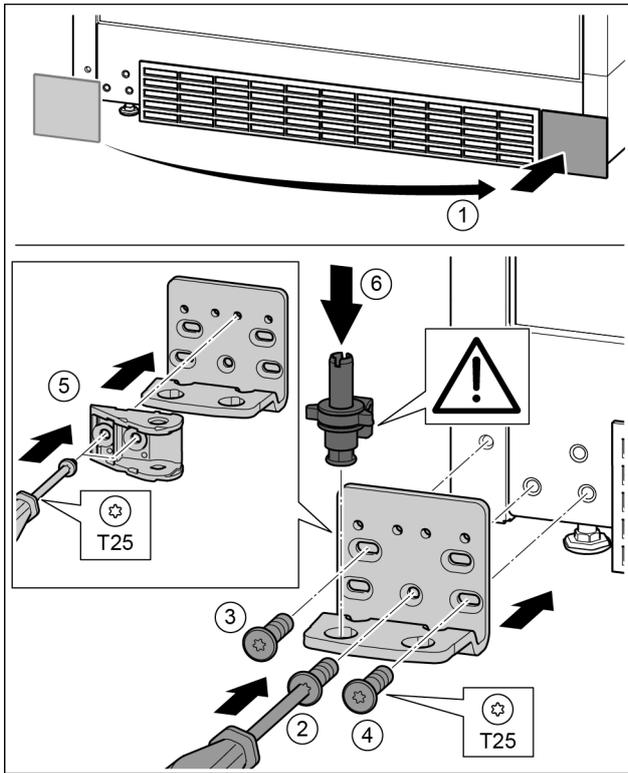

Fig. 32
- ▶ Remove the cover and fix it on the other side. Fig. 32 (1)
- ▶ Place the bearing bracket on the other side and screw in with the aid of a T25 screwdriver. Start with screw 2 at the bottom in the middle. Fig. 32 (2)
- ▶ Screw in screws 3 and 4. Fig. 32 (3, 4)
- ▶ Rotate the soft stop connection 180°. Screw in with a T25 screwdriver on the other side of the bearing bracket. Fig. 32 (5) \*
- ▶ Insert the bearing pin completely. Make sure that the catch mechanism is pointing to the rear. Fig. 32 (6)